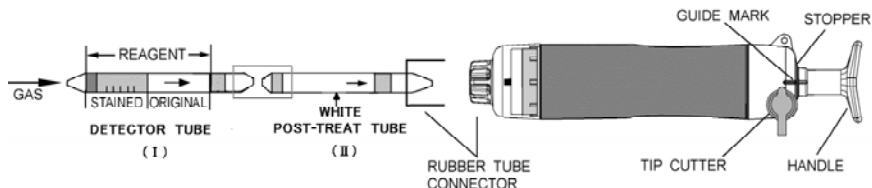

Fig.1
- ① Break both ends of a new detector tube ( I ) and a post-treat tube ( II ), and connect each end of the detector tube and post-treat tube with rubber tube as shown in Fig 1.
- ② Insert the post-treat tube into the aspirating pump securely as shown in Fig.1. (Arrow mark shall point to the pump.)
- ③ Align the guide marks on the handle and stopper of the aspirating pump.
- ④ Pull the pump handle at full stroke until it locks and wait for 3.5 minutes or until the completion of sampling is confirmed with the flow indicator of the pump ( See descriptions about the flow indicator in the instructions of the pump ).
- ⑤ On completion of sampling, read the scale at the maximum point of the stained layer.
- ⑥ In case of 2 pump strokes, turn the handle to right or left at 1/4 turn and push back it thoroughly without removing the detector tube from the pump, and then align the guide marks again as shown step ③ and repeat step ④.
- ⑦ In this case, actual concentration is half of the reading value.